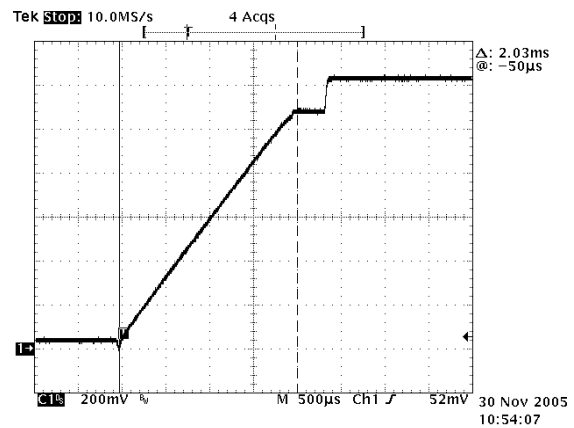

Figure 33. VR11 Startup
The controller supports two different startup routines. An AMD ramp to the initial VID code, or a VR11 Ramp to the 1.1 V VID code, with a pause to capture the VID code then resume ramping to target value based on an internal slew rate limit. See Figures 33 and 34. The controller is designed to regulate to the voltage on the SS pin until it reaches the internal DAC voltage. The soft-start cap sets the initial ramp rate using a typical 5.0 μA current. The typical value to use for the soft-start cap (SS) is 0.01 μF. This results in a ramp time to 1.1 V of 2.2 ms based on equation 1.